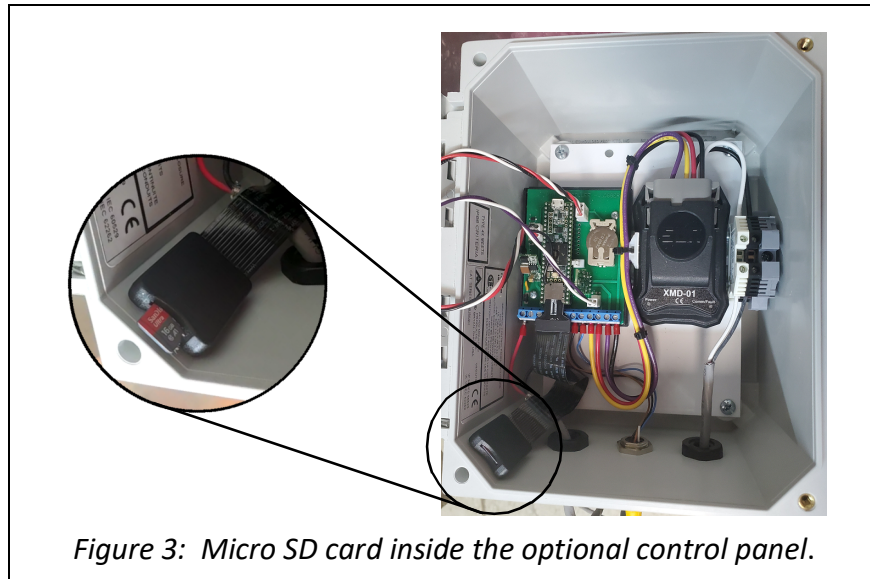

Figure 3: Micro SD card inside the optional control panel.
The optional control panel is equipped with a micro SD card for data storage (see Figure 3). The card is located inside the control panel. The system records the following data to a “.csv” file, approximately once each second, while the RUN/STOP switch is set to RUN:
3. Locate the micro SD card drive in the bottom left corner of the box as shown in Figure 3.
7. Reinstall the micro SD card into the housing in the control panel. Make sure the card is inserted properly, with the copper contacts facing the back of the housing (see inset of Figure 3). Gently push the card in until you feel a click.